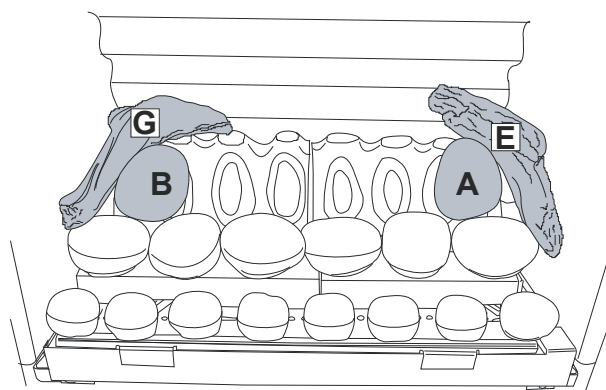

Figure 33
5. Place the **G** and **E** driftwood pieces as shown in Figure 33 then place the **B** and **A** pebbles (**G** driftwood is not marked).